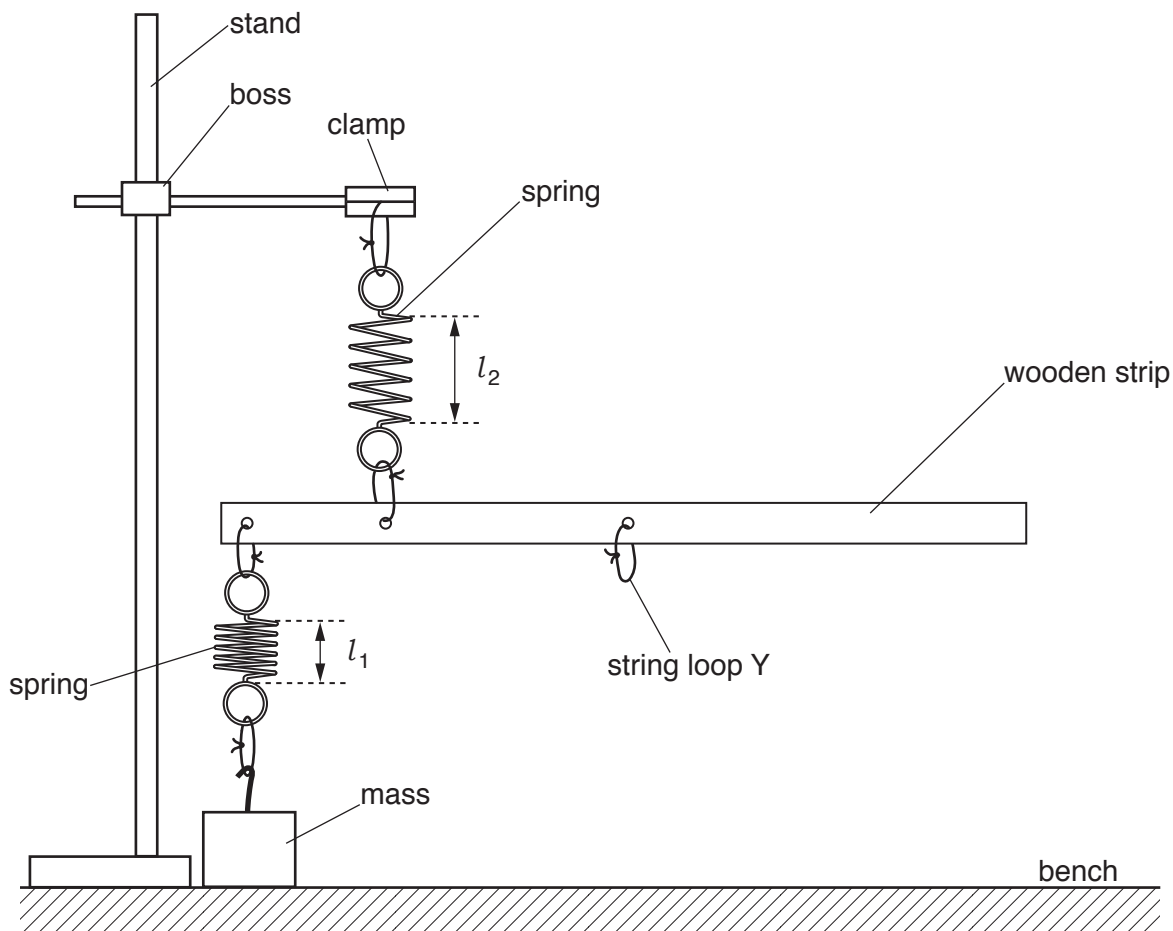

Fig. 1.1 (not to scale)
(a) (i) Assemble the apparatus as shown in Fig. 1.1, with the mass resting on the bench.
- (iii) Measure and record the lengths l_1 and l_2 of the coiled sections of the two springs, as shown in Fig. 1.1.